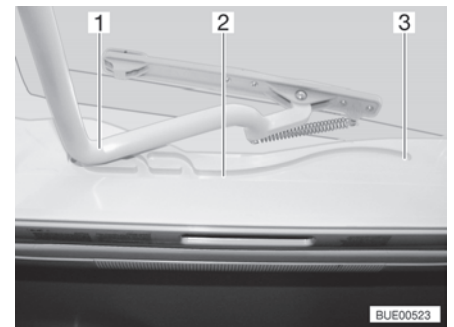

Fig. 44 Guide (Heki skylight)
- Pull the bar (Fig. 44,1) in the guides (Fig. 44,2) to the rearmost position (Fig. 44,3).
- Use both hands to push the bar (Fig. 44,1) slightly upwards.
- Pull the bar in the guides (Fig. 44,2) to the desired position.